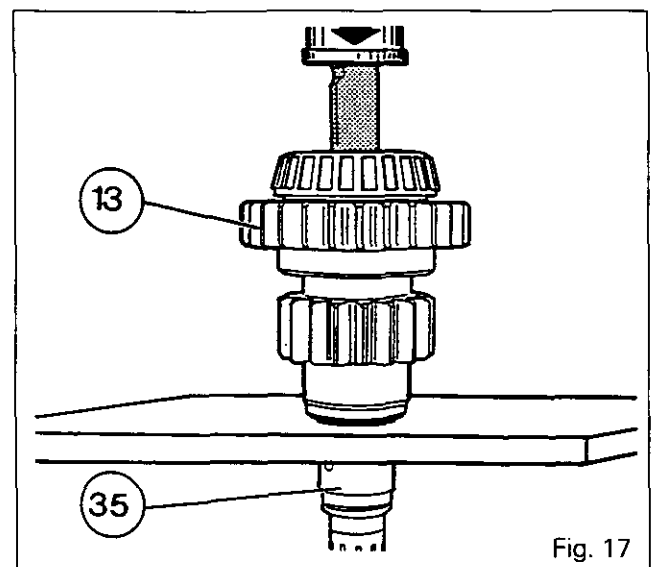

Fig. 17
106. Withdraw the pinion (13) and assemble on the shaft (35) (Fig. 17). Mount the washer (5) and bolt (6). Tighten to a torque of 50 Nm.